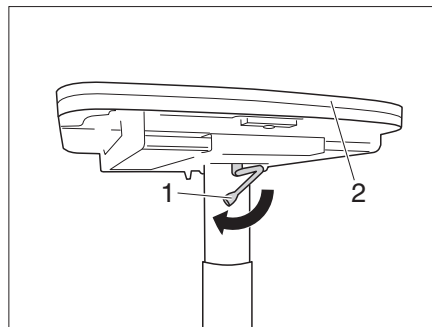

Fig. 101 Lowering the table
- Swivel the catch lever (Fig. 101,1) to the left. The lock is open.
- Press the table-top (Fig. 101,2) downwards in the middle and keep it pressed.
- Swivel the catch lever (Fig. 101,2) to the right. The lift-off table is locked.